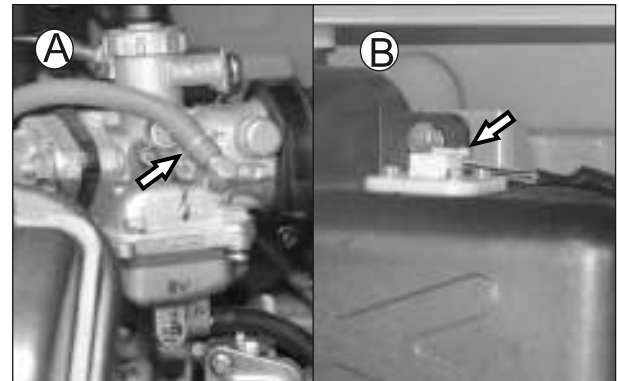

Fig. 5.94
- Disconnect hose fuel cock from carburetor (A). (Fig. 5.94)
- Disconnect fuel sender unit coupler from wiring harness rear (B) (wherever applicable). (Fig. 5.94)